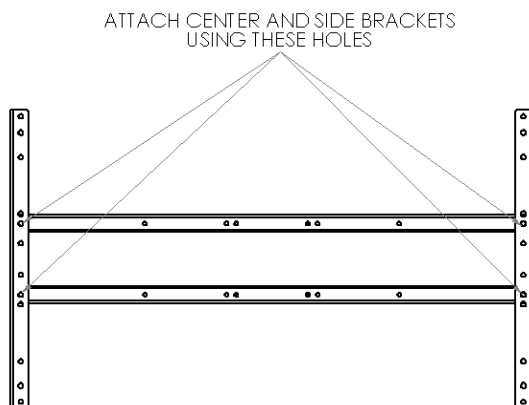
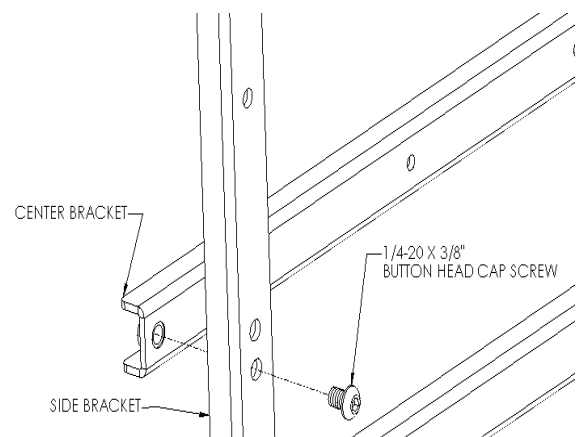

Figure 7
Figure 8
- Attach center brackets to side brackets using the 1/4-20 screws (see Figure 7 and Figure 8).